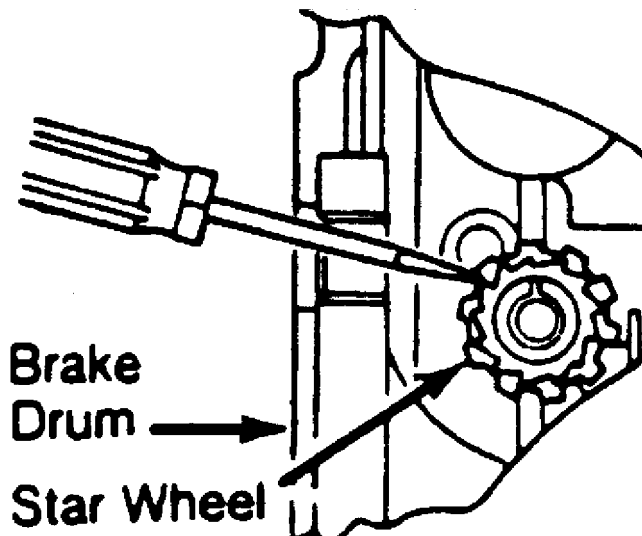

Fig. 1: Adjusting Rear Brake Shoe-to-Drum Position
1) Raise and support rear of vehicle. Release parking brake. Remove rear wheel. Through the hole in the brake drum of the GLC Wagon or on the backing plate of all others, remove the star wheel plug. Insert a flat-tipped screwdriver, and move the star wheel forward until the wheel is locked. See Fig. 1.